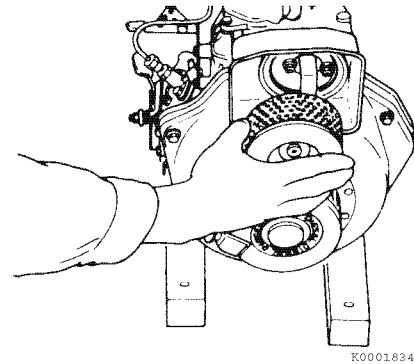

Figure 6-37
10. Remove the filter element (**Figure 6-37**).